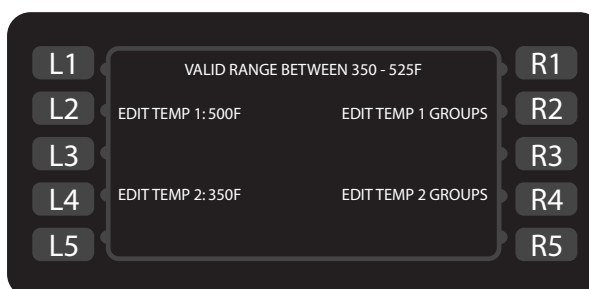

Figure 27: Temperature Edit Screen
2. Select the temperature to change by pressing either the L2 (temperature 1) or L4 (temperature 2) soft key (Figure 27).
2. Select a “block” of food groups by pressing either the R2 (temperature 1 groups) or R4 (temperature 2 groups) soft key (Figure 27, page 19).